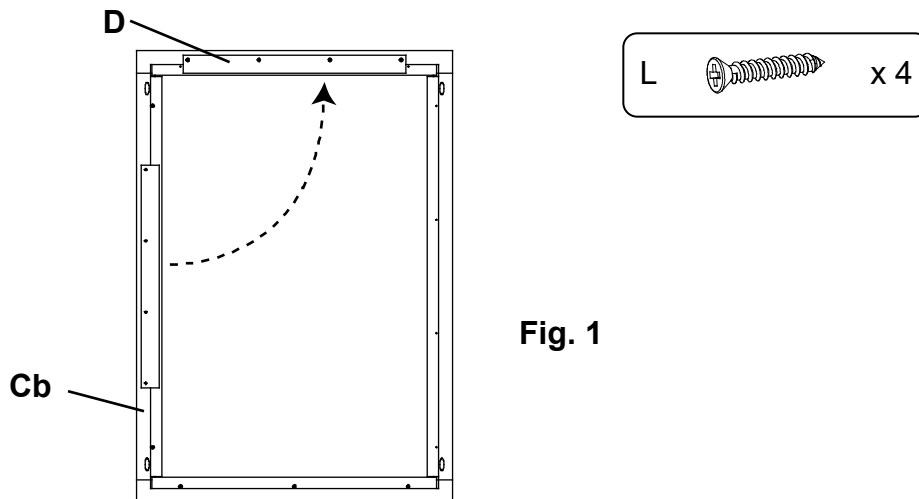

Fig. 1
1. Decide if you want your Beveled Mirror to hang either vertically or horizontally. If you want it to hang vertically, remove the Mirror Frame Bracket (D) and line it up to the predrilled holes on the short side of the Mirror Frame (Cb) as in Figure 1. Attach with four #6 x 3/4" Flat Head Screws (L).